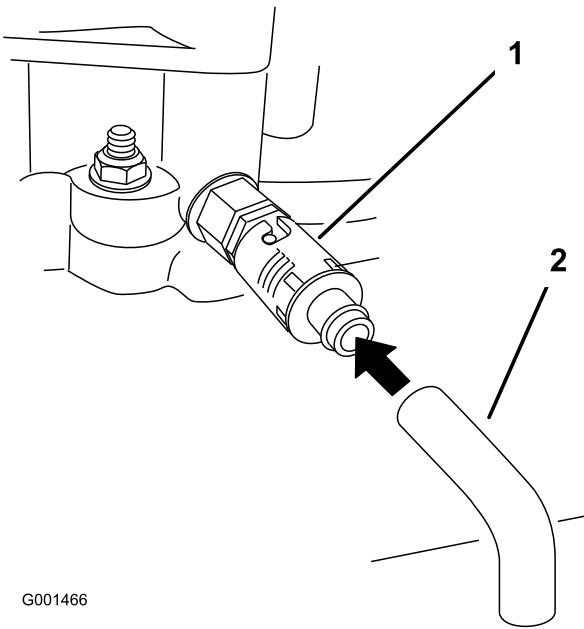

Figure 29
6. Place a pan below the drain hose. Rotate oil drain valve to allow oil to drain (Figure 29).
8. Remove the drain hose (Figure 29).